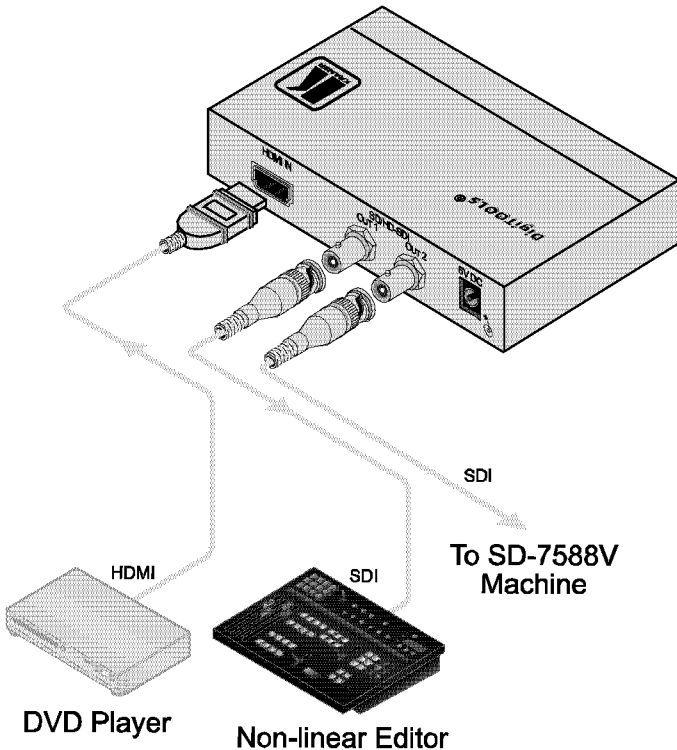

Figure 2: Connecting the FC-113 HDMI to SD/HD-SDI Converter
To connect the **FC-113**, as the example in Figure 2 illustrates, do the following¹:
4. Connect the 5V DC power adapter to the power socket and connect the adapter to the mains electricity (not illustrated in Figure 2).